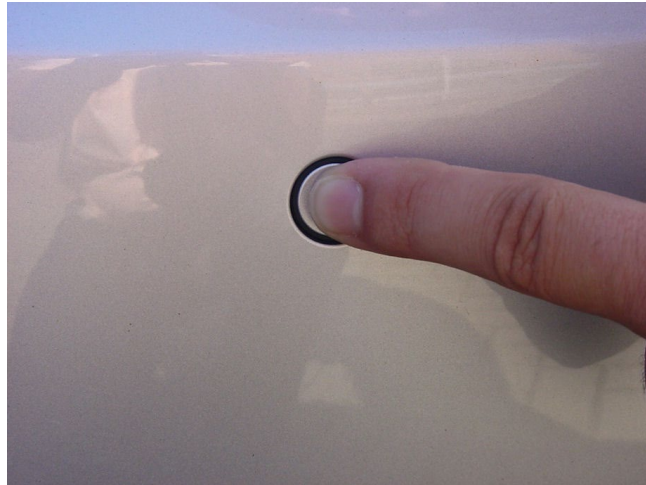

Figure 4. A pressure check on a parking aid sensor.
4. Pressure check for a tight fit and correct attachment of the parking sensors (Figure 4). If the sensor is not snug or feels loose, remove the bumper and reinstall the sensor.